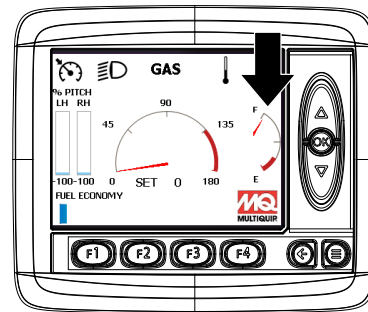

Figure 27. Fuel Check (Gasoline)
2. Turn the ignition key to the **ON** position and read the fuel gauge on the digital display (Figure 27) to determine if the gasoline level is low.